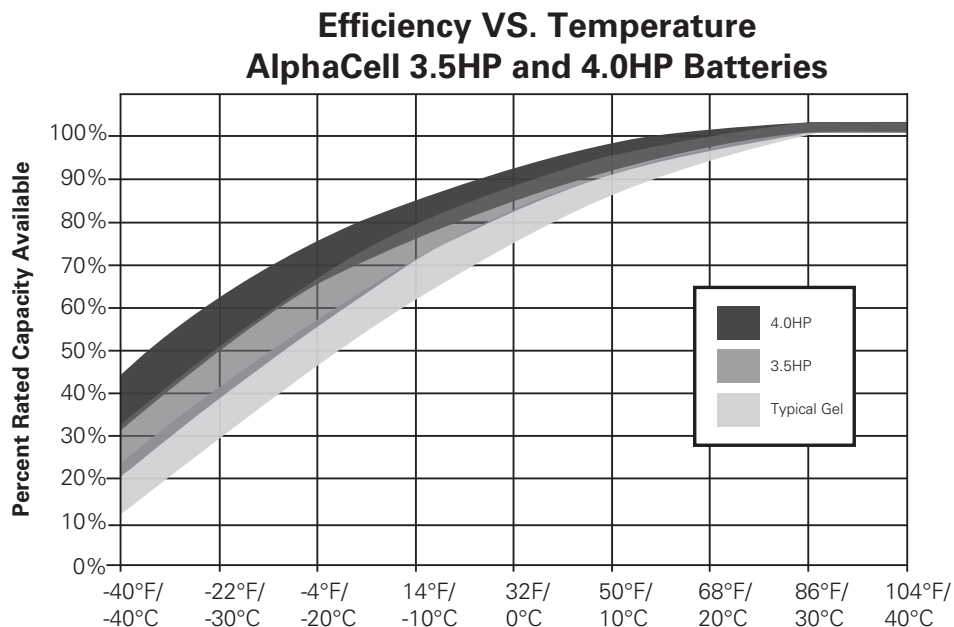

Fig. 1-3, Available Capacity vs. Ambient Temperature
- As batteries get colder, the available capacity is reduced. This is related to the kinetics of the electrochemical reactions and the resistivity of the electrolyte (see **Fig. 1-3**).